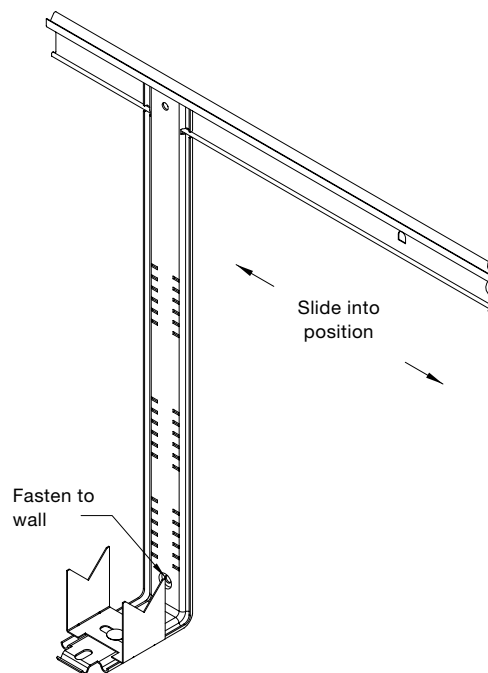

Figure W-4
4. Slide the snap expansion bracket into place and fasten the bottom of the bracket. (The snap expansion brackets should be installed approximately 36" apart.) The snap expansion bracket is installed with a fastener using the recessed hole near the bottom of the bracket. (Figure W-4)